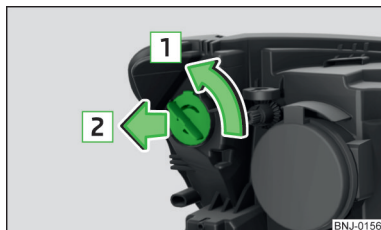

Fig. 188
- Turn the socket with the bulb in the direction of arrow **1** » Fig. 188.